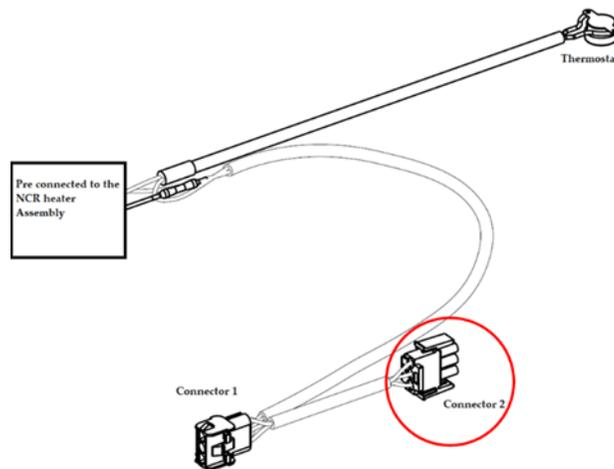
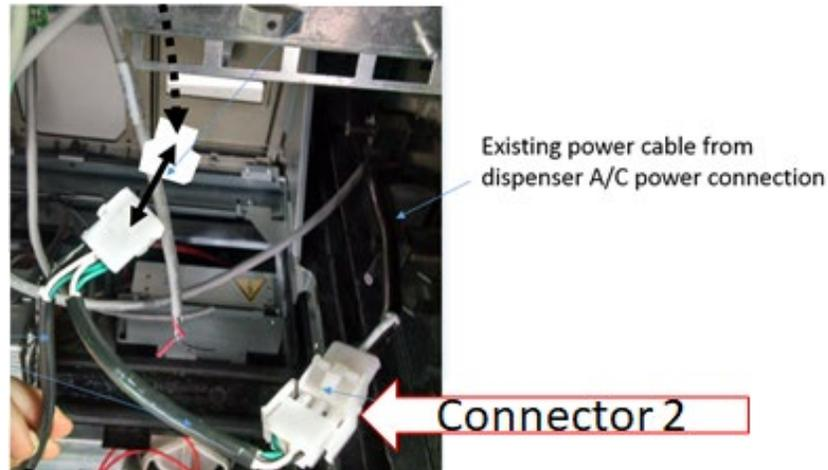

Figure 104
Figure 105
11. Affix Connector 2 (identified in Figure 104) to the existing dispenser A/C power cable as shown in Figure 105.